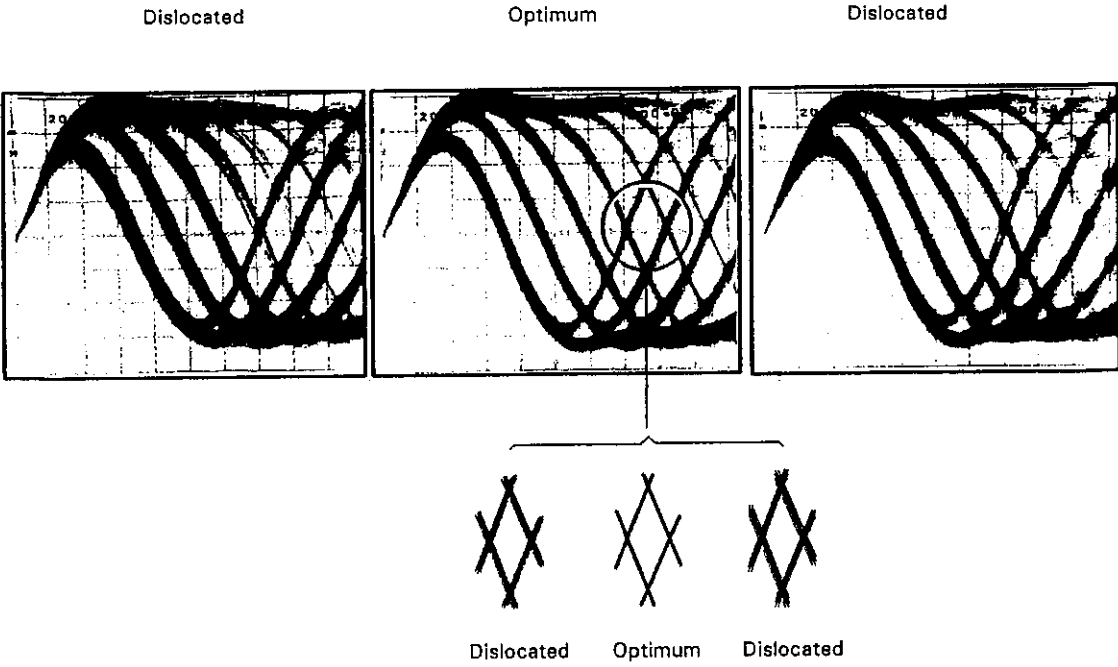

Fig. 5
3. Use the hexagon wrench to adjust the tangential tilt adjusting screw so that the eye pattern is shown most clearly (see Fig. 5).